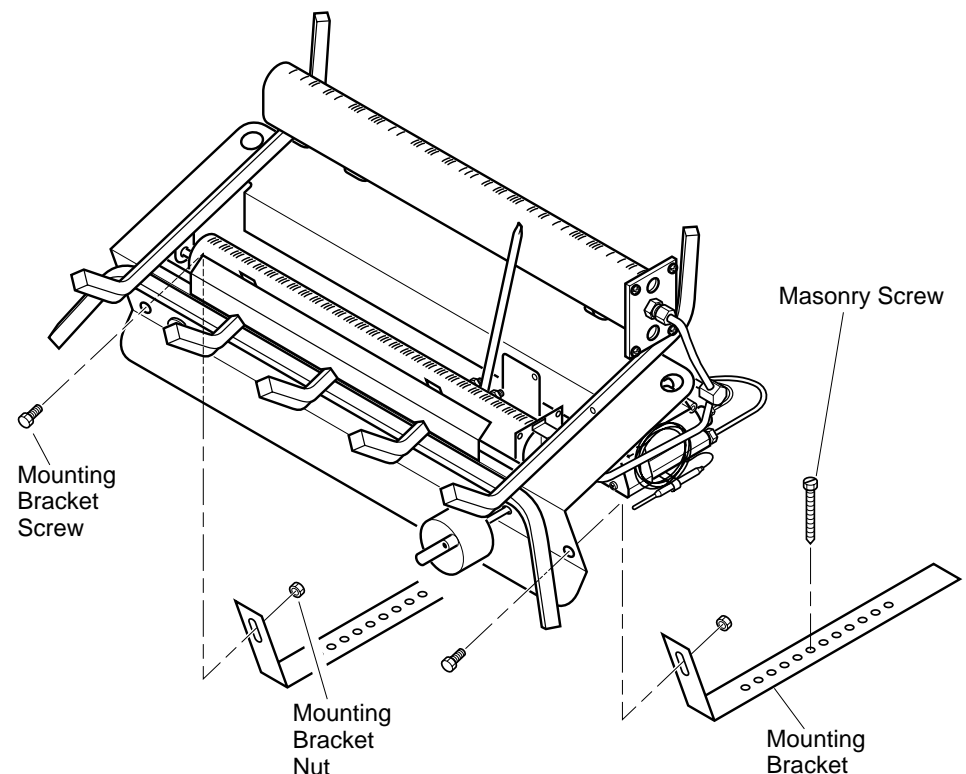

Figure 13 - Attaching Heater to Fireplace Floor
2. Locate mounting brackets, bolts, and nuts in hardware package. Attach mounting brackets to heater base (see Figure 13). Attach nuts finger tight.